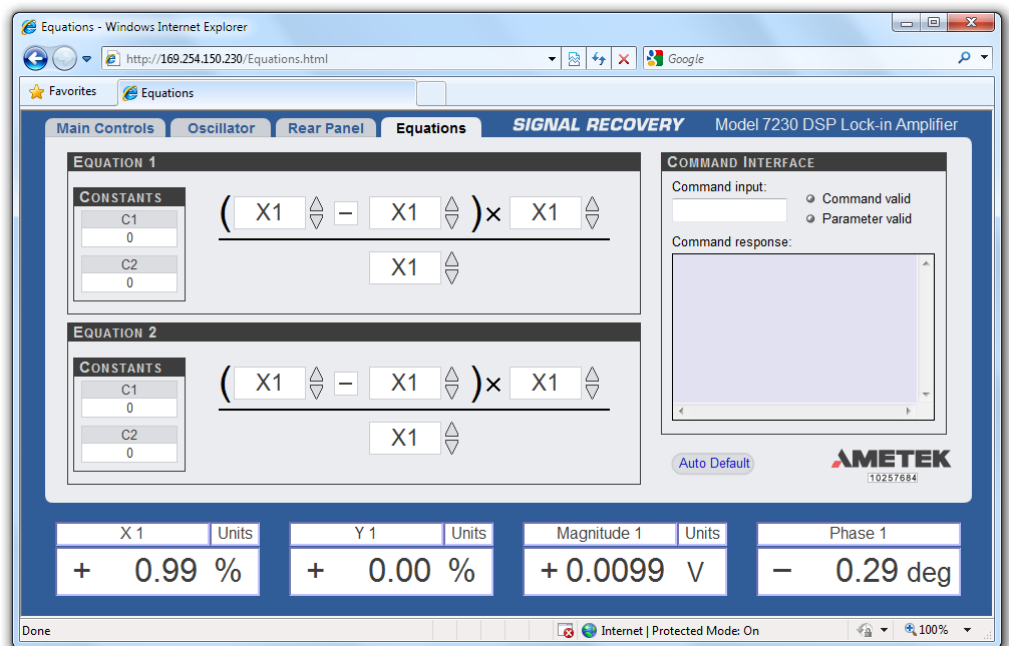

Figure 5-9, Model 7230 Equations Panel
- 9) Click the Equations tab, to show the Equations panel, as shown below in figure 5-9